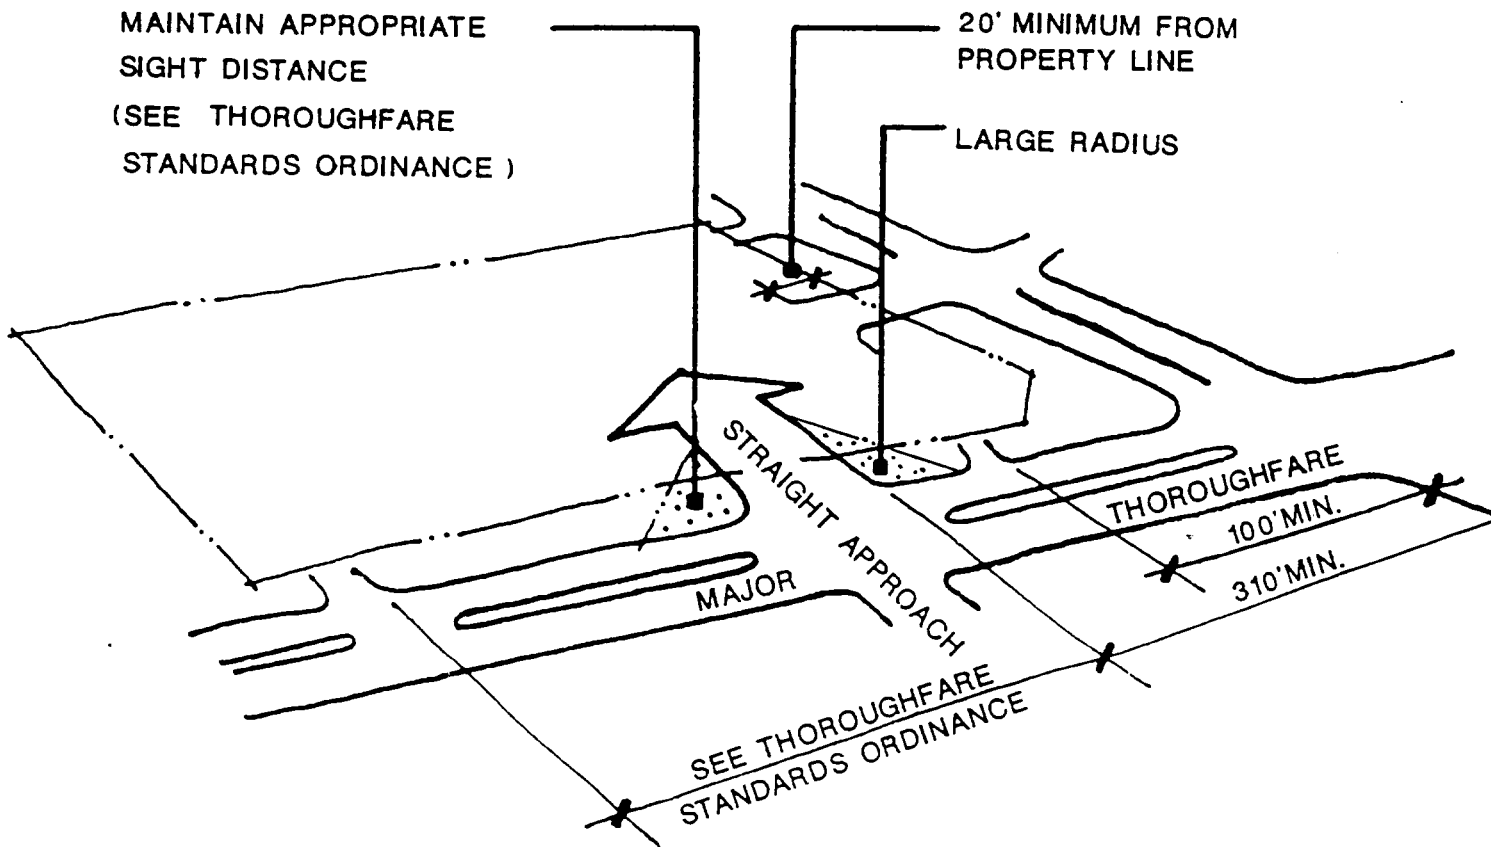

FIGURE 3
- Main entrance drives should generally be located at median breaks providing left turn access to and from the site. (See Figure 3.)